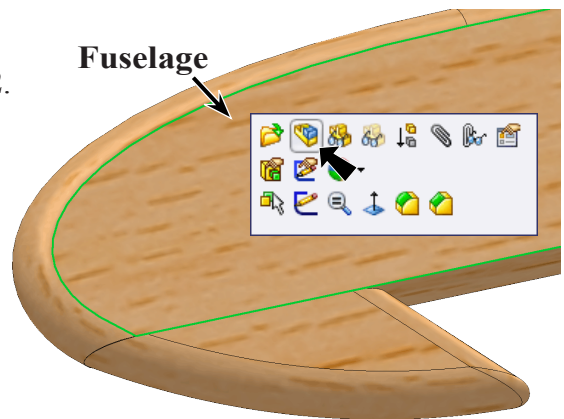

Fig. 12
Step 1. Rotate view to view **bottom** as shown in **Fig. 12**. Hold down middle mouse button (wheel) and drag.
Step 2. Click the **Fuselage** and click **Edit Part**  on the Content menu, **Fig. 12**.